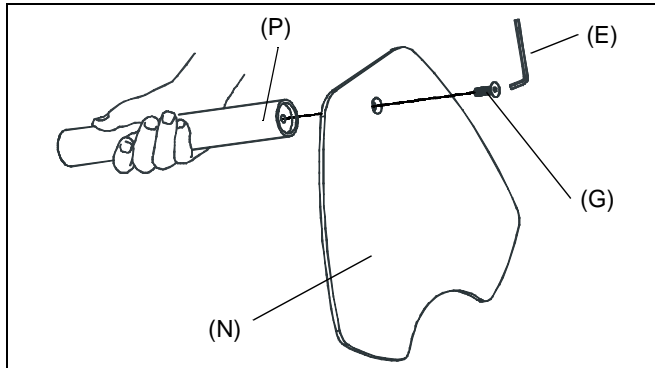

Figure 1
1. Assemble pole (P) to base (N) using one 3/8-16 x 1" flat head cap screw (G). (See Figure 1)